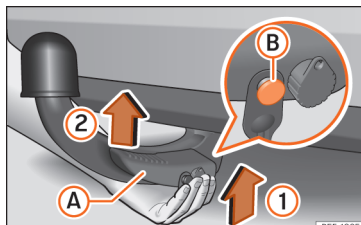

Fig. 172 Putting the tow hook in place. Step 1.
- Hold the tow hook **from below** and fit it into the hook housing in the direction of the arrow » **Fig. 172 ①** until it is heard to fit into place » **⚠**.
Lever »» Fig. 172 (A) automatically turns in the direction of arrow (2) upwards, and the release bolt (B) moves outwards (its red and green parts are visible) »» ⚠.
- Keep your hands away from the lever when fitting the tow hook to avoid trapping your fingers »» Fig. 172 (A).